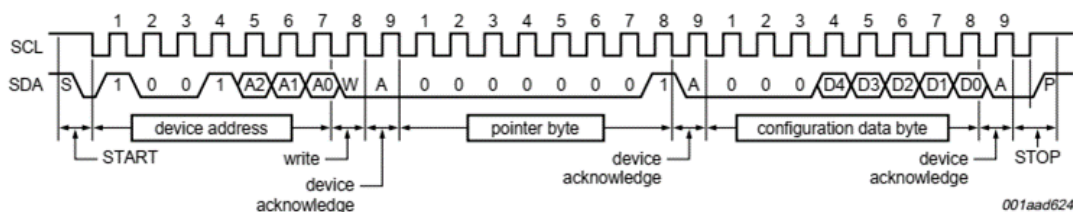

FIGURE 2.4 – Write configuration register.
3. Complete the `lm75a_writeConfigRegister()` function to write in configuration register by helping you figure with the Figure 2.4. Build the program.